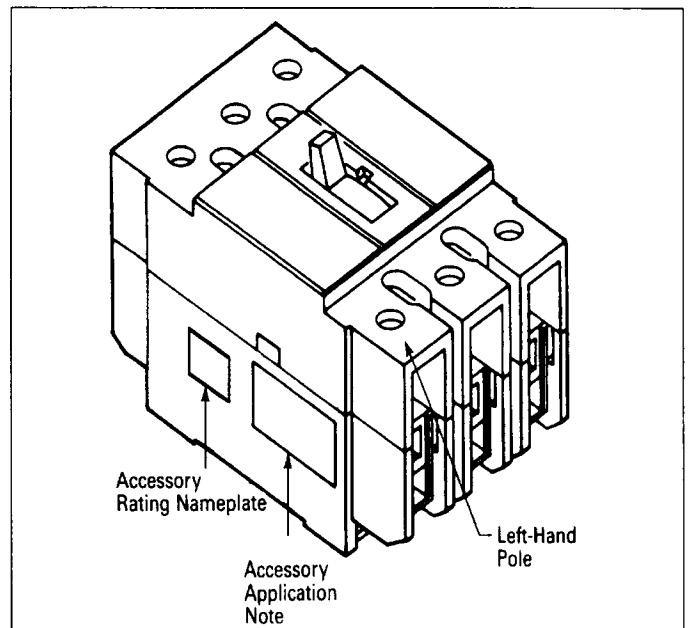

Fig. 2-4 Preferred Mounting Locations for Accessory Nameplate Labels
- 2-8. Place labels supplied with kit on circuit breaker. (See Fig. 2-4.)